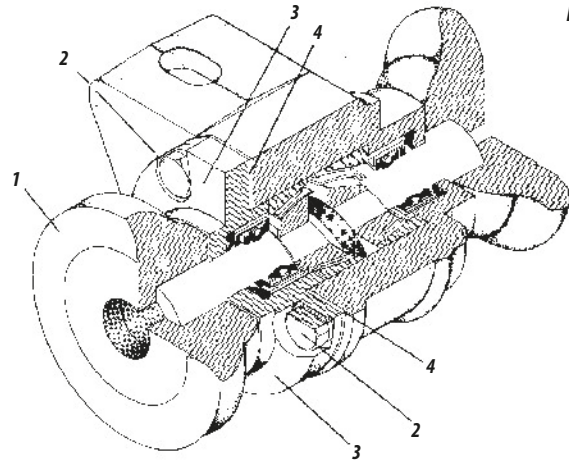

Figure 19
- 01 - Remove the washer (1) Figure 19.
- 02 - Loosen the screws (2) and remove the cover (3).
- 03 - Remove 1 or 2 gaskets item 4 from the bearing cover. Replace the cover and retighten it.
- 04 - If the clearance persists, you can face the cover item 3, to increase the adjustment, and then assemble the bearing using as many gaskets as required.